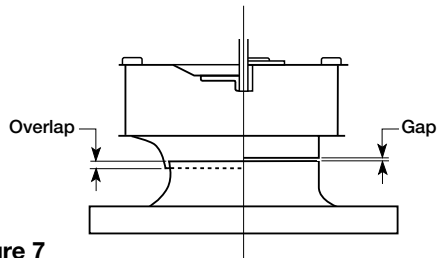

Figure 7
1. Check all fasteners and setscrews for tightness. The wheel should rotate freely and be aligned as shown in Figure 7.